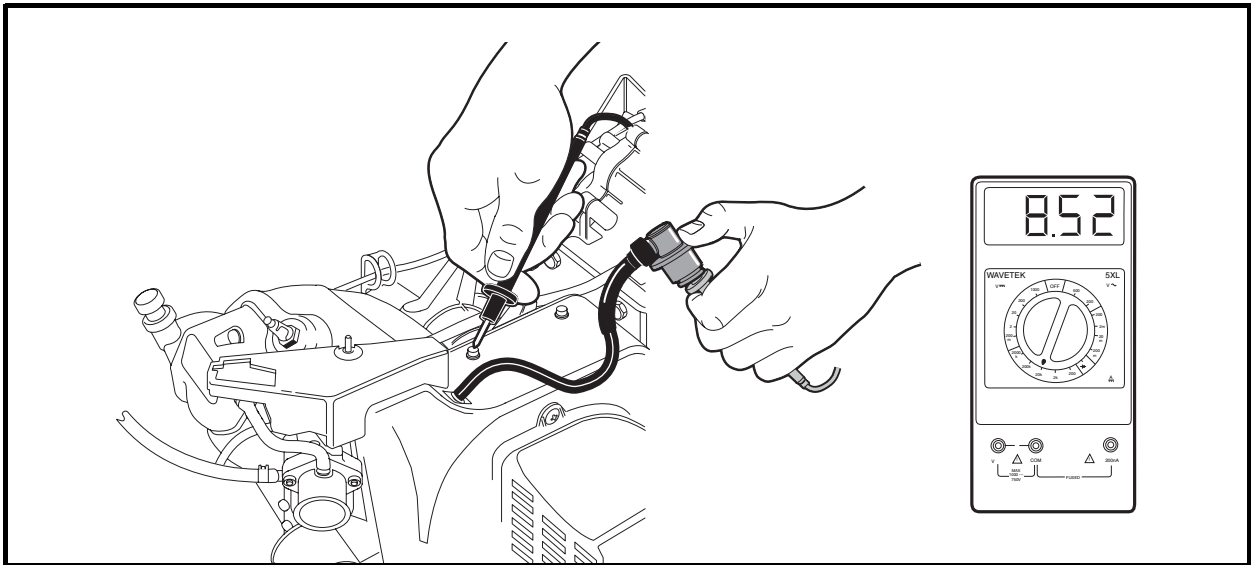

Figure 11-26 Secondary Coil Test – In Vehicle Test
- 3.1. Place the red (+) probe of the meter into the end of the spark plug cap that normally connects to the spark plug and place the black (-) probe on a clean unpainted surface of the engine or frame (**Figure 11-26, Page 11-27**).